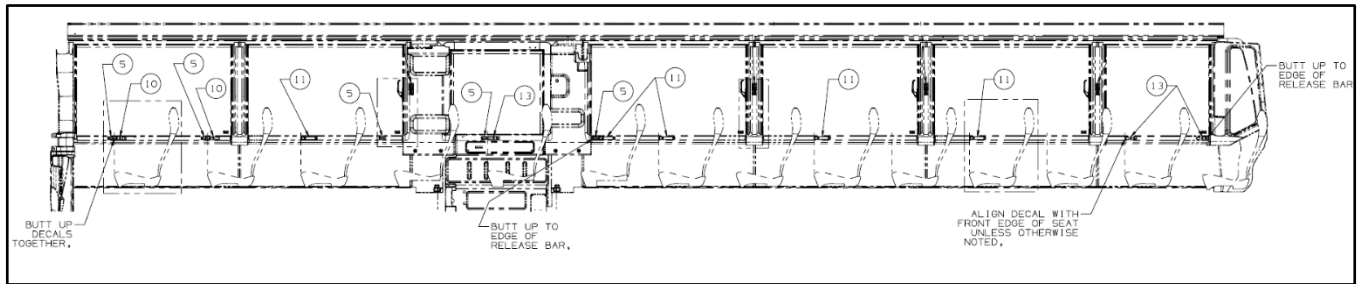

Figure 1: RH Curbside Interior of the Coach
4. It is important to follow nameplates positioning as shown on Figure 1 and 2 for coach to be safety compliant.